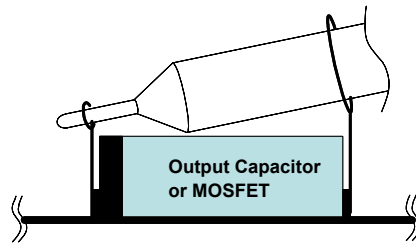

Figure 6. Proper Probe Set-Up to Measure Output Ripple and Phase Node Ringing
5. Use an oscilloscope to observe output voltage ripple and phase node ringing. For accurate measurement, see Figure 6 for proper test setup.